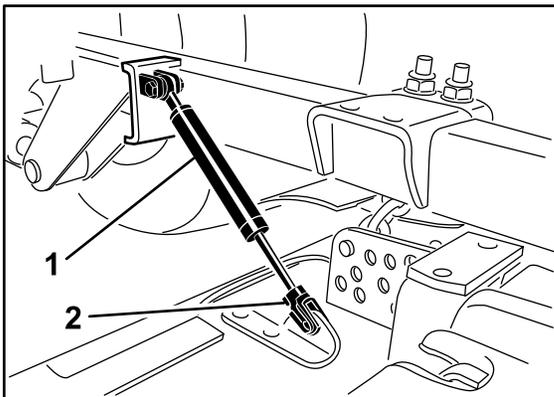

Figure 136
3. Remove the retainer clip and disconnect the damper assembly from the mower deck (Figure 136).